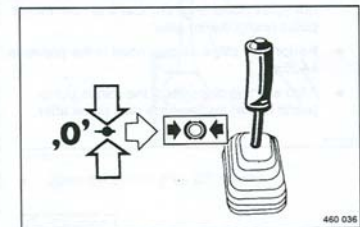

Fig. 32
- Push the travel lever (Fig. 32) to the right into parking brake position.